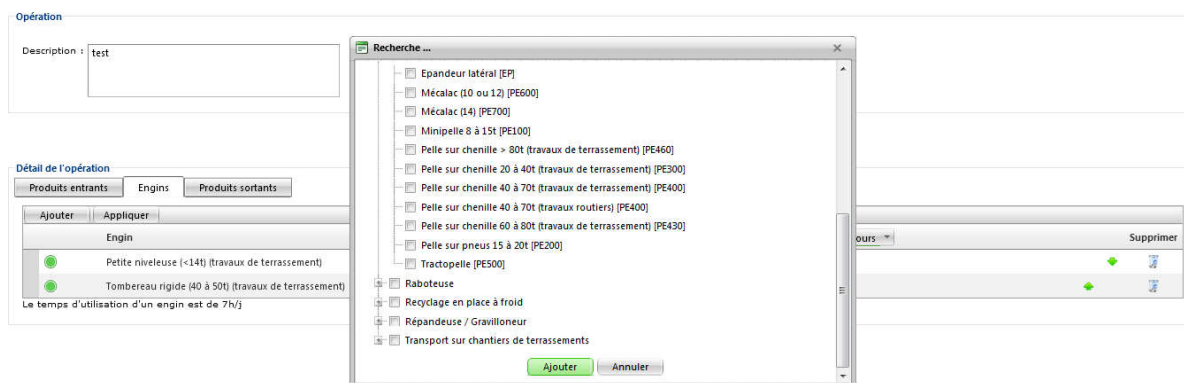

Figure 52 – Inserting the machines present on the site
- 24- In the "Operation Details" box under the "Machines" tab, click on "Add" (Figure 52)